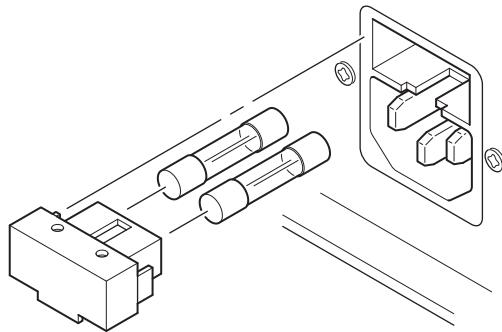

Figure 28 – Fuse Replacement
5. Install two new fuses into the fuse holder (Figure 28).